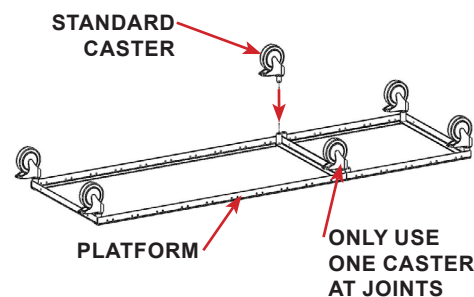

FIGURE 2.12 - Cage Bank Platform
**STEP 2:** For multiple platform assemblies (attached in series), insert a caster into each of the four end corners. See FIGURE 2.12
**STEP 3:** Insert one caster in the front and back where the platforms are joined together. There are two sockets where the platforms join, only one caster is required at the platform joints. See FIGURE 2.12